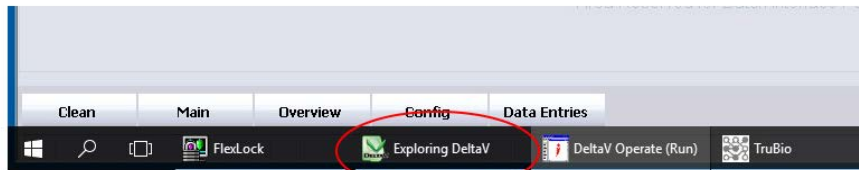

Figure 1.3. Exploring DeltaV button.
1. To find DeltaV licensing information, click **Exploring DeltaV** from the toolbar at the bottom of the screen (Figure 1.3).